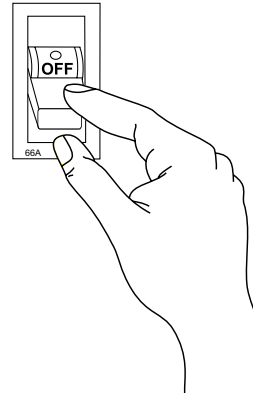

Figure 56. Main Circuit Breaker (OFF Position)
2. Place the **main breaker** in the **OFF** position (Figure 56).
- Place the **main circuit breaker** in the **OFF** position as shown in Figure 56.